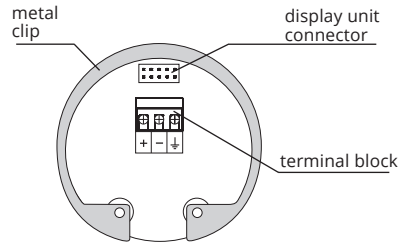

Fig. 14: Inside view of screw terminals of the level meter with current output ARLM-70\_--I
5. Connect the cable to the screw terminals according to the diagram in Fig. 14. Firmly tighten the terminals and the cable outlet.
**In the event of strong ambient electromagnetic interference, paralleling of conductors with power distribution, or for distribution to distances over 30 m, we recommend grounding the level meter (see above) and using a shielded cable. Ground the shielding of the cable on the side of the power supply, or the shielding is possible to connect only on inside pin of the level meter marked  $\perp$  see Fig. 14 (the shielding of the cable is always connected in a single location).**